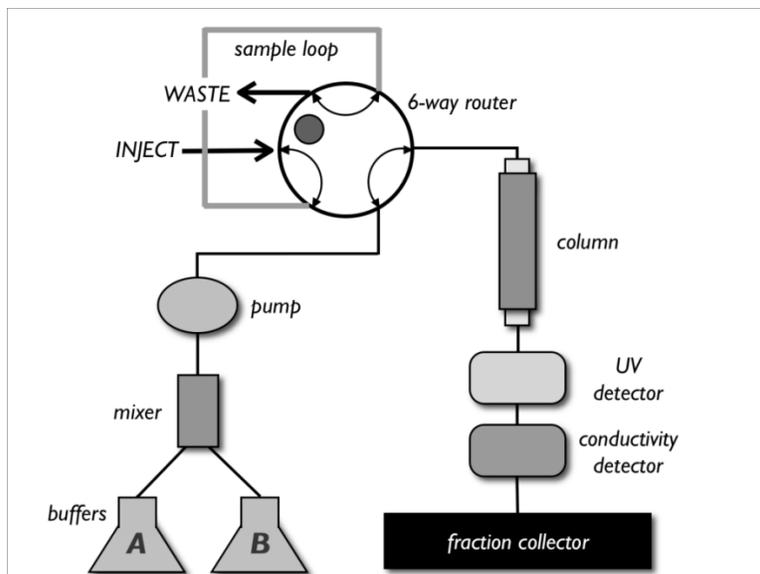
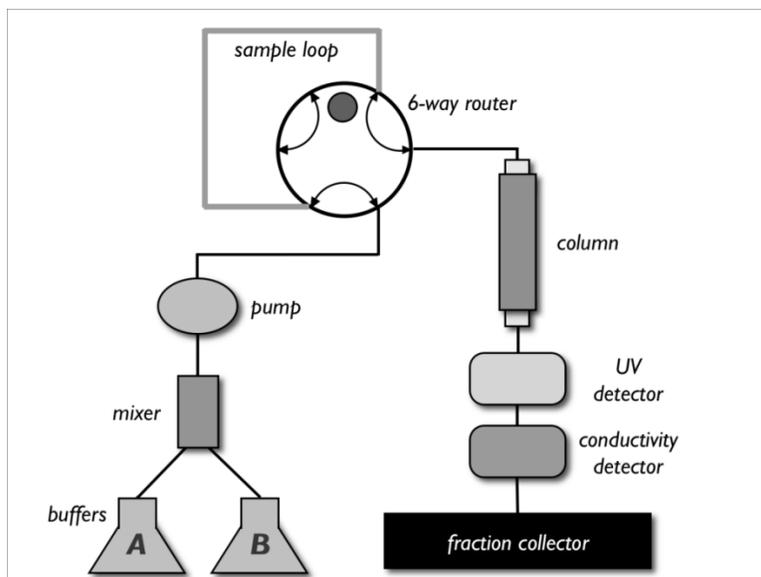

FIGURE 1 - Sample-loading configuration. The router is in the counterclockwise position.
FIGURE 2 - Sample-injection configuration. The router is in the clockwise position.
3. A 6-way router that controls whether the *mobile phase* flows through the sample loop. In one configuration of the router, the sample loop is detached from the LP system flow (Figure 1). In a second configuration, the mobile phase flows through the sample loop before passing through the column (Figure 2). The router contains the *injection* port, through which sample is added to the sample loop.
You will now pack the ion exchanger into the column using flow. Be sure the LP system is in its sample-loading configuration (Figure 1) before continuing. Specifically, make sure the 6-way router is in the appropriate position (rotated counterclockwise). The system should always be stored in the sample-loading configuration when not in use. Carefully review the entire protocol before starting, since some steps must be performed quickly.
11. Disconnect the other set of male-female luer connectors, and attach the female connector to the bottom of the column. The system is now in its *sample-loading* configuration (Figure 1).
2. Put the system in the *sample-loading* configuration (Figure 1). Make sure the 6-way router is in the counterclockwise position. Place the column in a stand, checking that it is completely upright and vertical. Place the stand on the LP system platform, and place lines A and B in their buffers.
4. Start a 3 ml/min flow of buffer A. Disconnect the female-male luer connectors adjacent to the 6-way router (Figure 1). Buffer will drip from the female connector.
8. Disconnect the other set of male-female luer connectors (Figure 1), and attach the female connector to the bottom of the column. The system is now in its *sample-loading*
configuration (Figure 2). You have now attached the column to the LP system flow without introducing air into the column bed.
Load sample into the sample loop by following the steps below. In the system's sample-loading configuration, the sample loop path is completely detached from the LP system's flow (Figure 1). When sample is injected through the *injection* port of the 6-way router, liquid in the sample loop exits to the *waste* port. Thus, sample can be loaded into the loop while the column is still being equilibrated. An 8 ml sample loop is provided. To prevent introduction of air onto the column, always overfill the loop. This is especially important because the 6-way router and the luer connections to the sample loop add additional volume to the sample loop path. Thus, for the 8 ml sample loop, plan on loading 9 ml of sample. As you load the sample, it may be difficult to tell when the loop is filled and when sample has begun to enter the waste line. To make this easier, before injecting the sample, use an empty syringe to push air into the loop. This clears out any liquid and makes it easier to see when sample has completely filled the loop. If you would like to make a different volume sample loop, calculate the length of Tygon tubing required for your desired volume. $\text{Volume} = [\text{tube-length (cm)}] * [\text{Volume/cm}]$. $\text{Volume/cm} = 0.020 \text{ ml/cm}$ for the tubing provided to you. Cut the tubing, and attach male luers to each end. Label the volume of the loop so that others can use it.
2. Remove all air from the syringe, and screw it to the *injection* port of the 6-way router (Figure 2). Slowly depress the plunger. Fill the loop with sample until sample can be seen exiting the *waste* port. Do not depress the syringe completely, or you may accidentally introduce air into the loop. Leave the syringe attached to the router for the remainder of the protocol.
6. Once the sample is injected, switch the router back to the *sample-loading* configuration by rotating counterclockwise (Figure 2). It is not necessary to stop the flow. Though you will not affect the sample elution if you forget to do this, you will add an additional 9 ml of volume to your LP system, thus increasing the length of time to complete the anion exchange chromatography protocol.